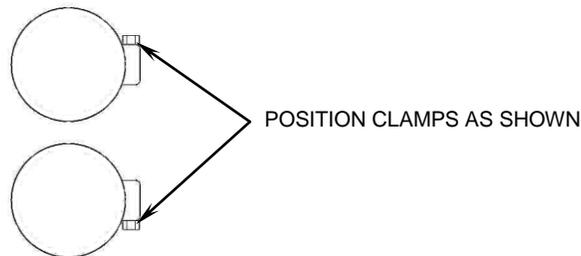

FIGURE 2
5. Install the rear exhaust assembly to the rear cylinder using the stock acorn nuts removed in Step 2. **DO NOT TIGHTEN AT THIS TIME.** Align muffler with mounting holes in the exhaust mount bracket and insert (2) supplied 5/16" x 5/8" flange bolts but **DO NOT TIGHTEN AT THIS TIME.**
7. On the front and rear heatshields, unscrew the remaining hose clamps and feed the tail end of the clamp through the clips on the inside. The larger clamps are to be placed at the rear of the heatshield so they clamp over the mufflers. The screw end of the hose clamps should be accessible for tightening but not visible when the heatshields are mounted to the pipes. See Figure 2.